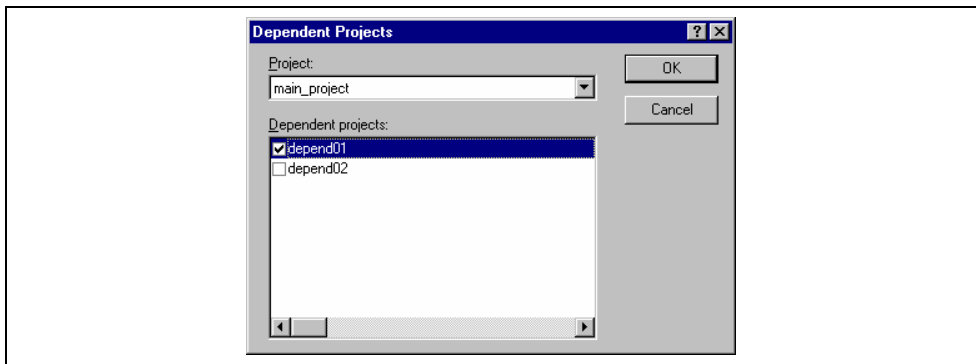

Figure 2.25: Dependent Projects dialog
1. Select [**Project->Dependent Projects**]. The “Dependent Projects” dialog will be displayed.(figure 2.25)